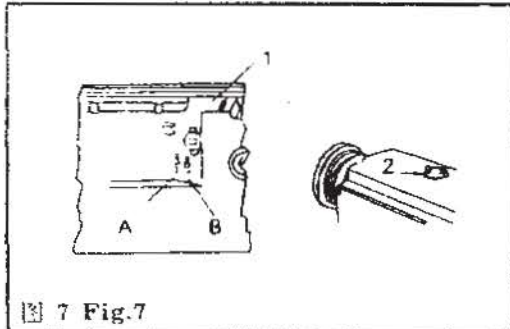

图 7 Fig.7
(3) 机器润滑:
a. 润滑须知: (图 7)
(3) Lubrications.
a. Information for lubrication: (Fig.7)